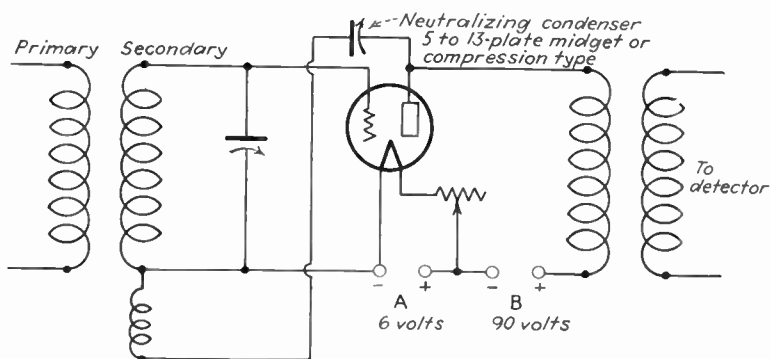

FIG. 165. Circuit A; neutralizing radio-frequency amplifier by end tap on grid coil.
Circuit A. *The Grid-circuit Method—End Tap* (Fig. 165). This circuit probably is the handiest to build and the easiest
3. Examine the diagram for the end-tap-input-circuit method of neutralizing the condenser effect of the grid and the plate. Show how the end-tap method picks up surges which oppose and kill surges fed back to the grid circuit by the capacity of the grid-plate condenser. (See Fig. 165.)